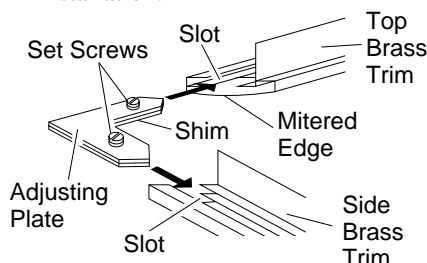

Figure 10 - Assembling Brass Trim
3. Align shim under adjusting plate as shown in Figure 10.
4. Slide one end of adjusting plate/shim in slot on mitered edge of top brass trim (see Figure 10).
5. Slide other end of adjusting plate/shim in slot on mitered edge of side brass trim (see Figure 10).